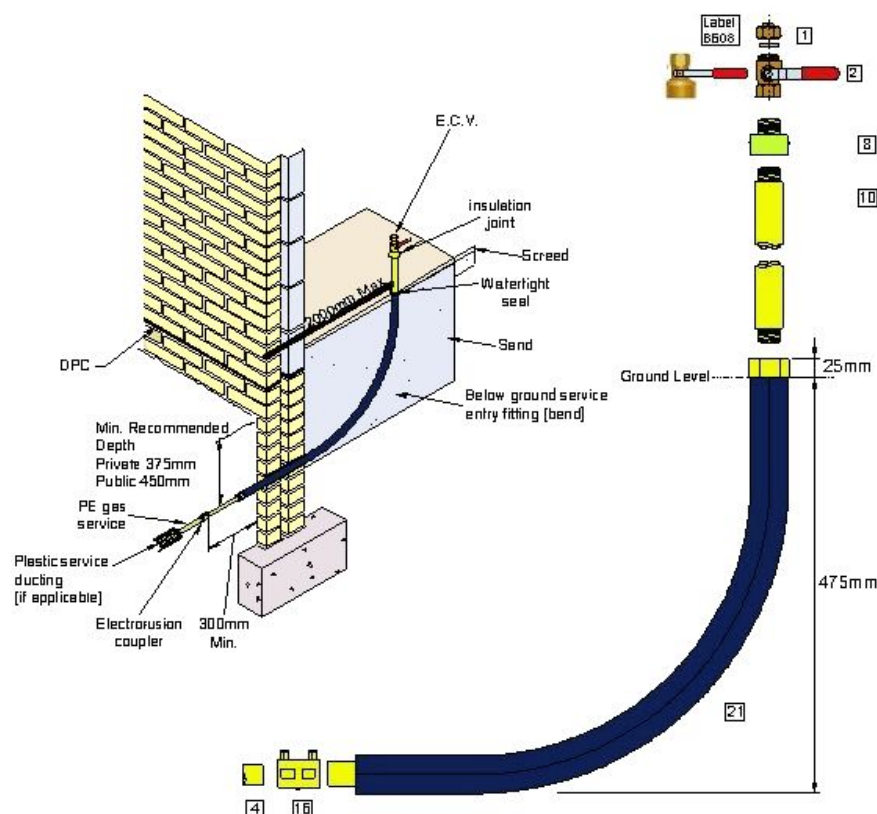

Figure 84 - LP Service to Below Ground Entry (Solid Floor)
1. The service should enter the premises in accordance with Figure 84.
1. A typical layout is shown in Figure 84.
Table 44 - Material list for figures 84 and 85